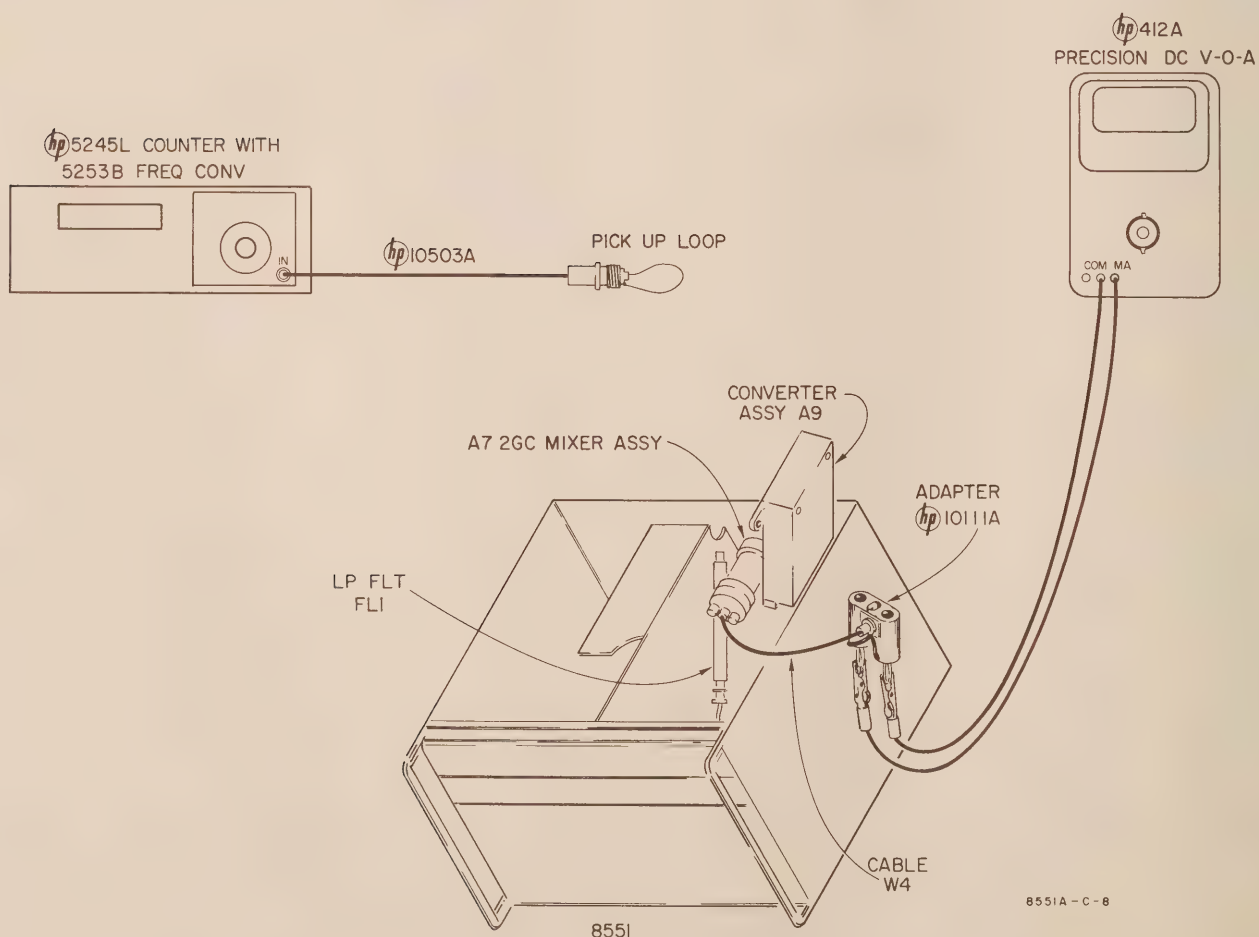

Figure 5-7. Setup for Measuring 180 MC Oscillator Frequency and Diode A7CR1 Current
b. Move converter assembly so connection between Cable W4 and Low-Pass Filter FL1 (Figure 5-7) can be reached. Disconnect Cable W4 from Filter FL1.
c. Using an adapter on Cable W4, connect milliammeter to Cable W4 (see Figure 5-7).
5-83. PROCEDURE. Setup is similar to that shown in Figure 5-7.